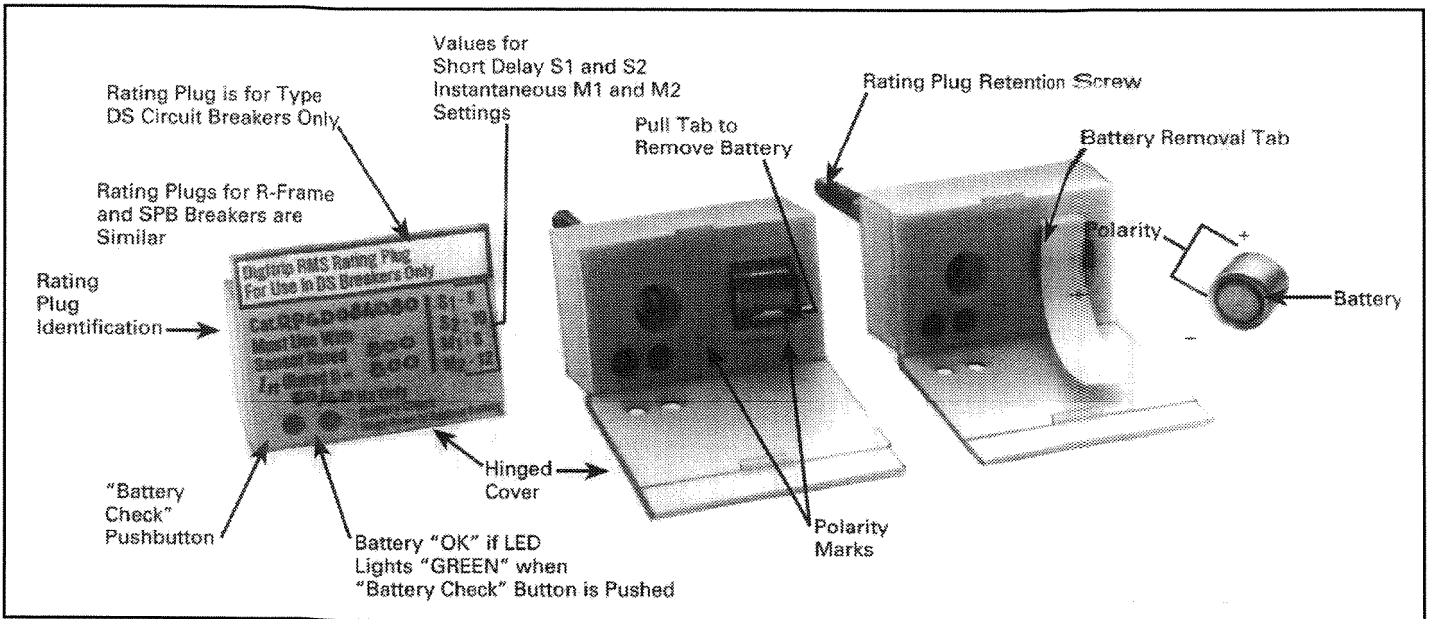
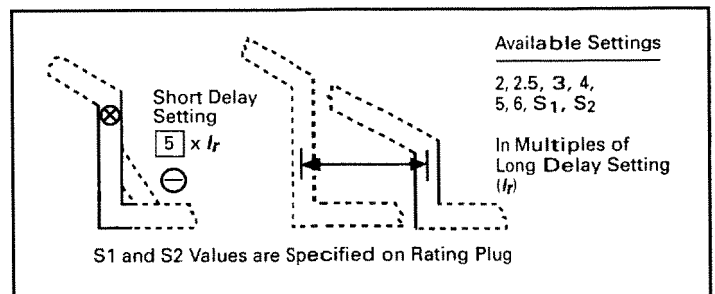
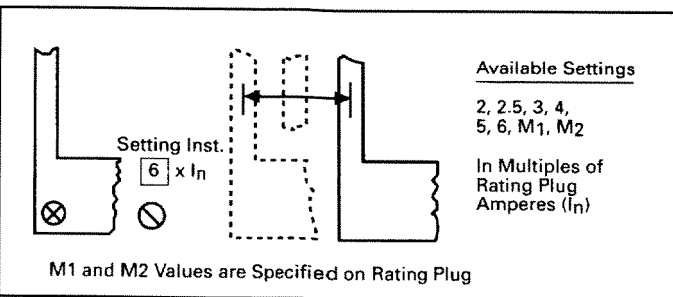

Fig. 4 Rating Plug
Fig. 8.3 Short Delay Current Settings
Fig. 8.5 Instantaneous Current Settings
The **Rating Plug** (See Fig. 4) fits into a special cavity to complete the Trip Unit (See Fig. 1).
Rating plugs have two current ratings listed on their covers (See Fig. 4).
There are eight (8) available Short Delay “Pick-up” Current Settings, as illustrated in Fig. 8.3. Six settings are in the range from 2 to 6 times I_r and the other two settings are “S1” or “S2” times I_r . (REMEMBER: I_r is the Long Delay Current Setting). The values that “S1” and “S2” have depend upon the type of circuit breaker, and are specified both on the rating plug label (see Fig. 4) and on the applicable (LS) Time-Current Curve referenced in Section 5.
There are eight (8) available Instantaneous Current Settings, as illustrated in Fig. 8.5. Six settings are in the range from 2 to 6 times the rating plug value (I_n), and the other two settings are “M1” and “M2” times (I_n). The values that “M1” and “M2” have depend upon the type of circuit breaker, and are specified both on the rating plug label (see Fig. 4), and on the applicable (I) Time-Current Curve referenced in Section 5.